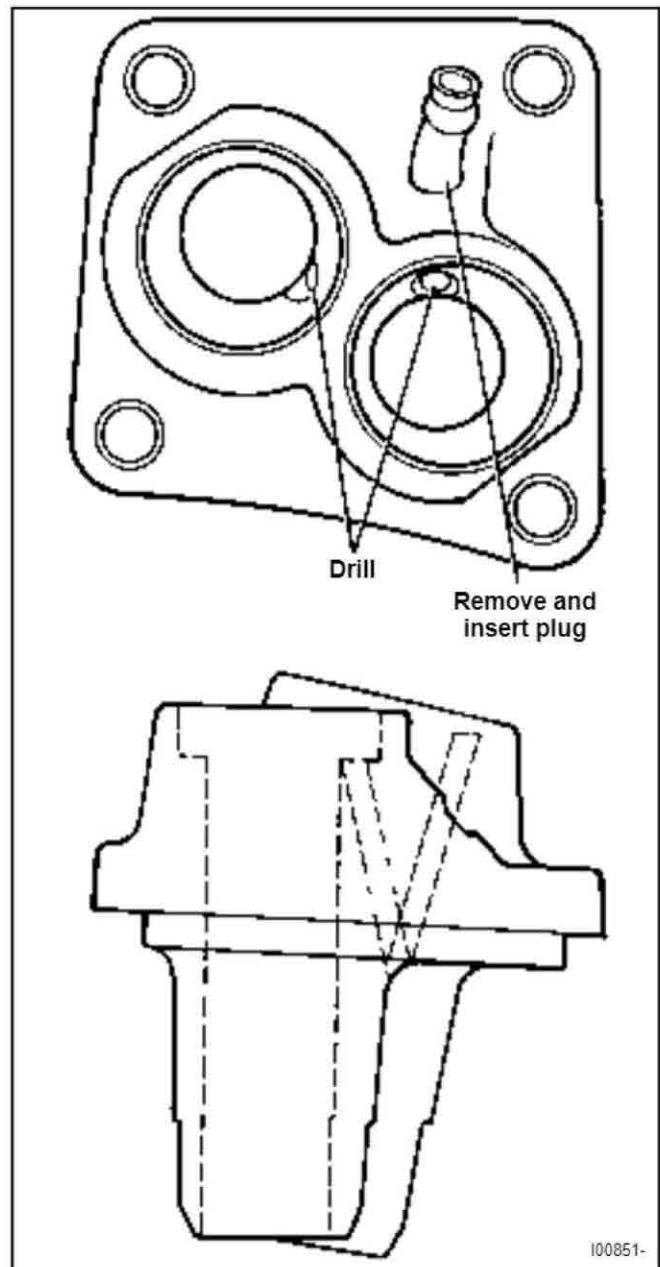

Figure 2. Tappet Guide Modification
5. Select the proper drill bit for each drain hole. It is important that the diameter of each hole is not enlarged. Drill out the existing holes in the tappet guide. The holes must exit the bottom as shown in Figure 2.